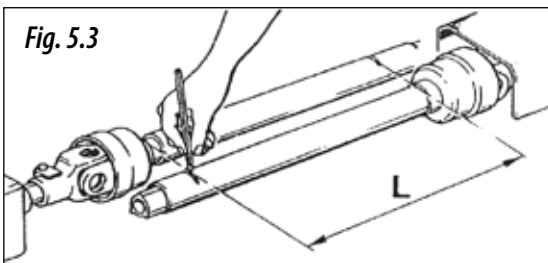

Fig. 5.3
- 2- Determine the minimum shift length "L" (Fig. 5.3), By lifting and lowering the hydraulic lift.